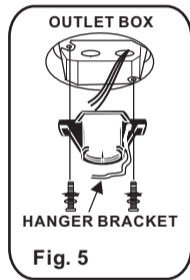

Fig. 5
**Step 1.** Secure the Hanger Bracket to the ceiling outlet box using the screws provided with your outlet box in conjunction with the lock-washers provided with the fan. (Fig. 5)